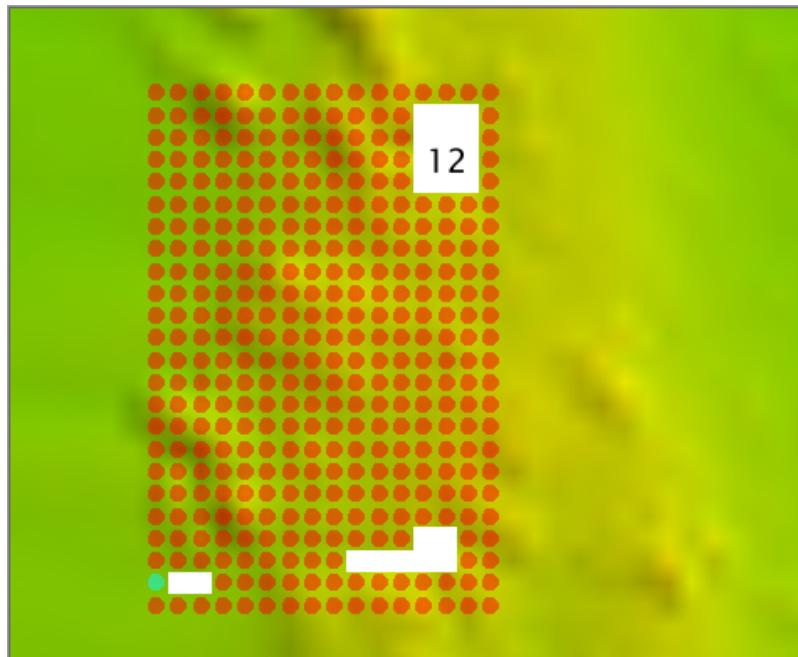

Fig. 2.23: Example for Full coverage.
- In the example in (Fig. 2.23), Full Coverage requirements identify the hole of 12 grid nodes, because there it contains an instance of 3x3 unpopulated grid nodes. The holes with 7 and 2 nodes do not.